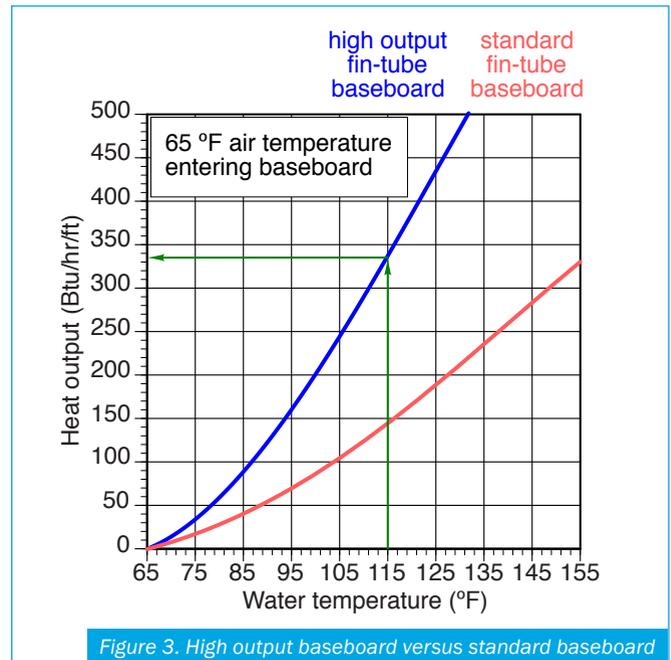

Figure 3. High output baseboard versus standard baseboard
Another option is to consider adding high output finned-tube baseboard rather than standard baseboard. Figure 3 shows the heat available from high output baseboard (shown as the blue curve) and, for comparison, standard residential baseboard (shown as the red curve).
**Step 5:** Determine the output of high output baseboard at the average circuit water temperature using Figures 3 (or manufacturer's literature for a specific make and model).
Assume that the temperature drop of the distribution system at design load is 10F and this existing baseboard has the same output as in the previous example (146 Btu/hr/ft at average circuit water temperature of 115F). Determine the amount of high output baseboard required based on the performance shown in *Figure 3*.